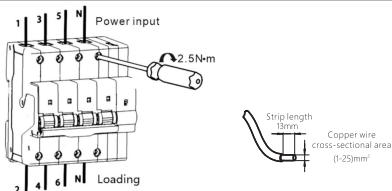

Figure 6 Wiring Mode and Stripping Length
8.4 It is applicable to copper wire connection. See Table 7 for wire selection and Figure 6 for wiring mode and stripping length.